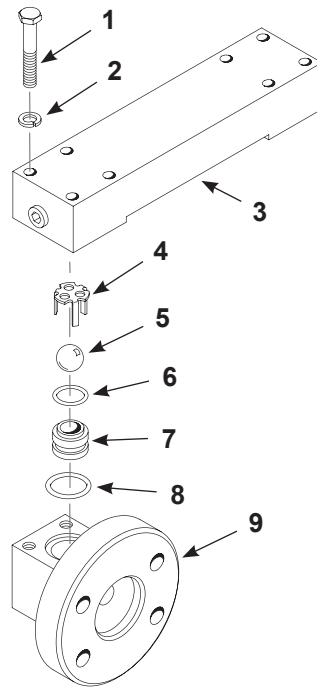
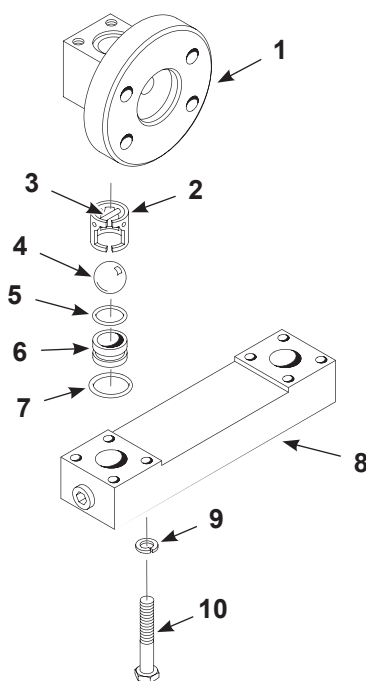
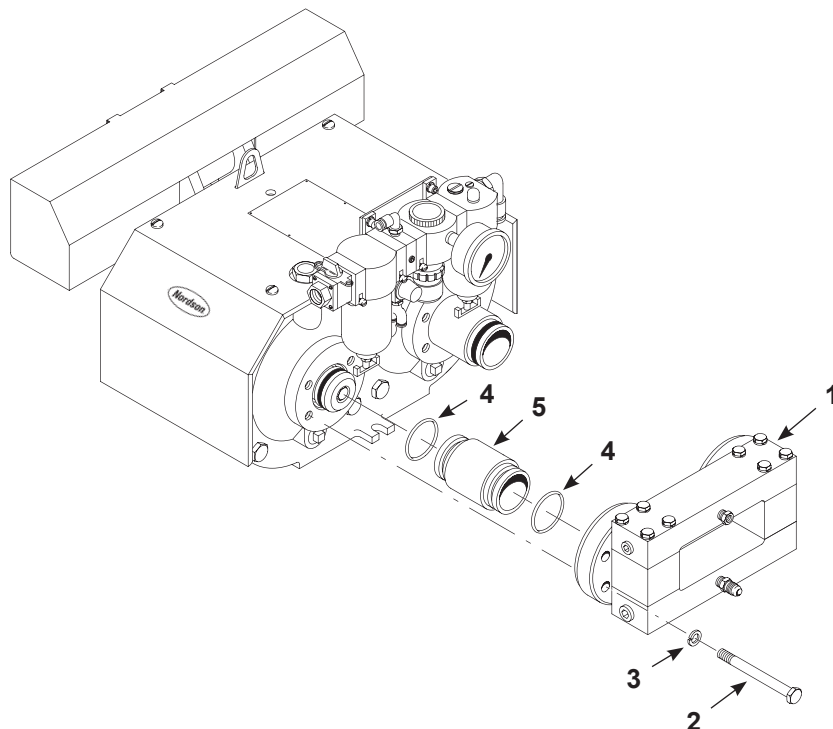

Figure 6-3 High-Pressure Check Pressure
Figure 6-4 Siphon Check Rebuild
Figure 6-5 Siphon Check Rebuild
1. See Figure 6-3. Remove the screws and lock washers (1, 2) that secure the pressure manifold (3) to the check housings (9).
2. Remove and replace the ball cages (4), balls (5), O-rings (8), ball seats (7) and O-rings (6).
1. See Figure 6-4. Remove the screws (10) and lock washers (9) that secure the siphon manifold (8) to the check housings (1).
2. Remove and replace the O-rings (5, 7), ball seats, (6), balls (4), Do not lose the ball guide pins (3).
1. See Figure 6-5. Thoroughly coat new O-rings (4) with O-ring lubricant and install them onto the high-pressure cylinders (5). New O-rings are included in the hydraulic packing service kit and in the hydraulic section repair kit.
2. Install the high-pressure cylinders (5) over the plunger assembly and into the solvent chamber.
3. Install the hydraulic section (1) on the cylinders. Install the lock washers (3) and screws (2) and tighten to 41–47 N•m (30–35 ft-lb).
4. See Figure 6-3 and Figure 6-4. Tighten the pressure manifold screws (1) and siphon manifold screws (9) to 27–34 N•m (20–25 lb-ft).